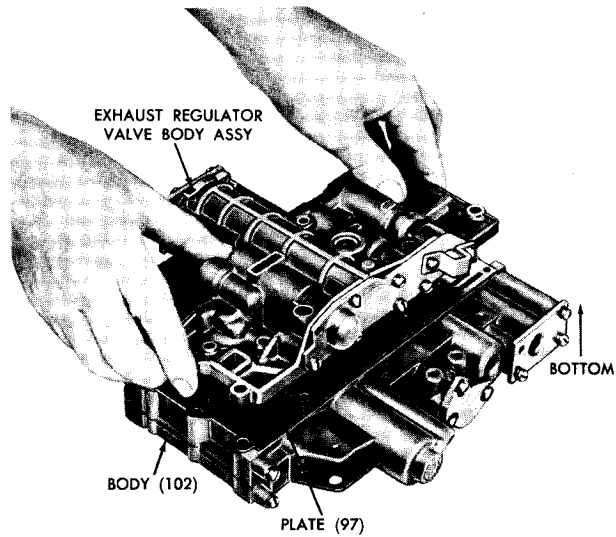

Fig. VIII-14 Installing exhaust regulator valve body assembly
(15) Installing valve body separator plate and exhaust regulator valve body (fig. VIII-14)